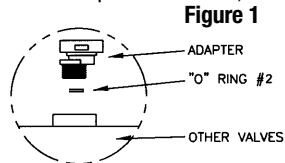

Figure 1
4. Place "O" ring #2 in the center of the threaded bayonet adapter (see Figure 1).